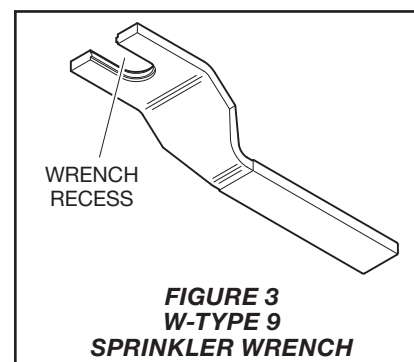

FIGURE 3
Step 2. Tighten the sprinkler into the sprinkler fitting using only the W-Type 9 Sprinkler Wrench shown in Figure 3. Apply the sprinkler wrench to the wrench area shown in Figure 1 or Figure 2, as applicable.
Step 4. Tighten the sprinkler into the sprinkler fitting using only the W-Type 9 Sprinkler Wrench shown in Figure 3. Apply the wrench to the sprinkler wrenching area shown in Figure 1 or 2, as applicable.